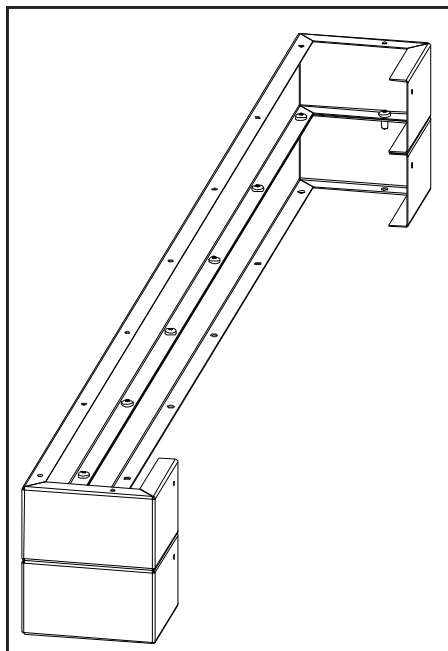

Figure 58: Combining 2 Base Shelf Riser.
2. When using more than one riser each level must be attached using nine (9) #8 T-20 screws provided (see Figure 58).